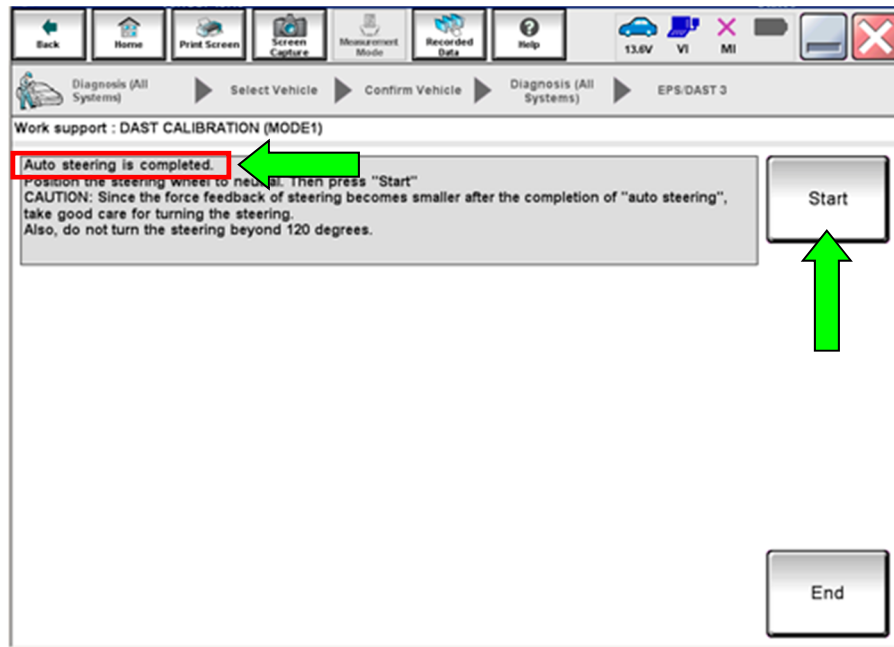

Figure 7
23. When Auto steering has completed, center the steering wheel to the neutral (straight ahead) position, and then select **Start** again (see Figure 7).